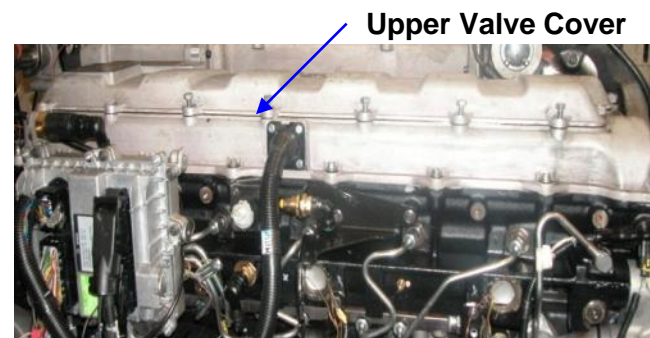

Fig 1
- Remove any necessary parts to allow for the removal of the upper valve cover, undo the 17 - 8mm valve cover bolts and remove the “upper” valve cover. (See Fig 1)